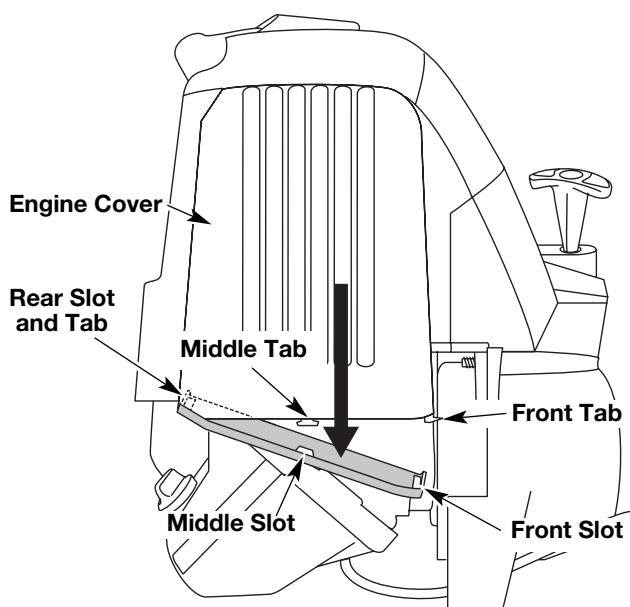

Fig. 39
1. Remove the muffler cover by pressing down on it, separating it from the engine cover. Using a flat blade screwdriver, disengage the middle and front tabs and slots first. The cover will hinge off from the rear tab (Fig. 39).
13. Reinstall the muffler cover. Slip the rear tab on the muffler cover into the engine cover rear slot. Then slide the remaining slots into the tabs until they snap into place (Fig. 39).